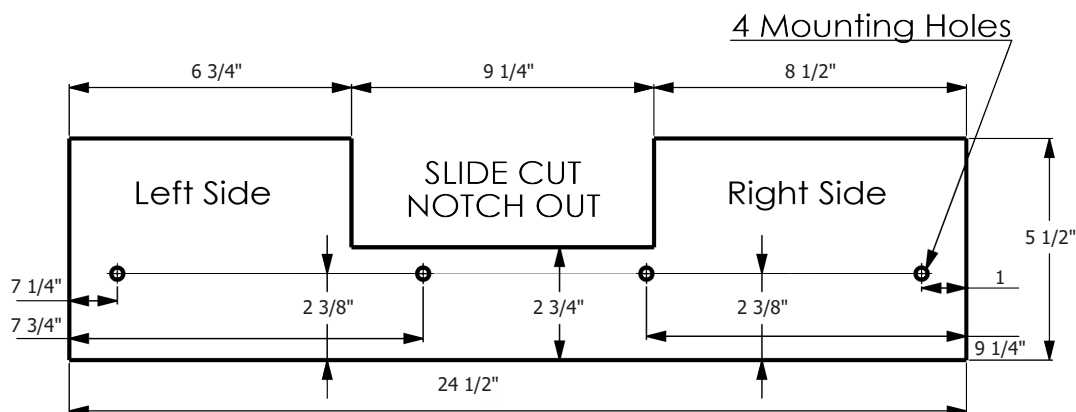

Figure 38
See Figure 38 for auxiliary fence dimensions.
6. The notch, see Figure 38, **MUST** be cut out in order to make slide cuts using the auxiliary fence.